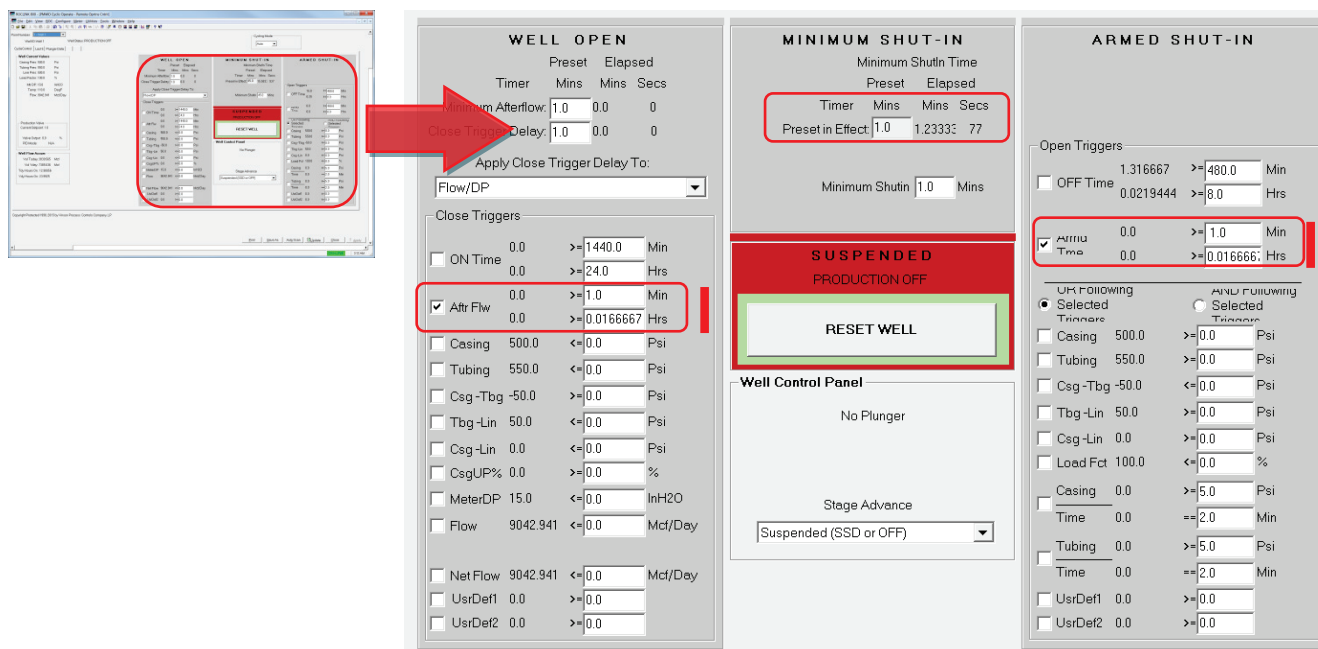

Figure 91. Intermittent Simulation – PMWO Cyclic Operate – CycleControl (Production Off)
4. If you use a single solenoid output (discrete) for the production valve, the screen appears as shown in Figure 91. Press the **Reset Well** button to open the production valve, and begin cyclic operation. The **Armed Shut-in** state goes active.